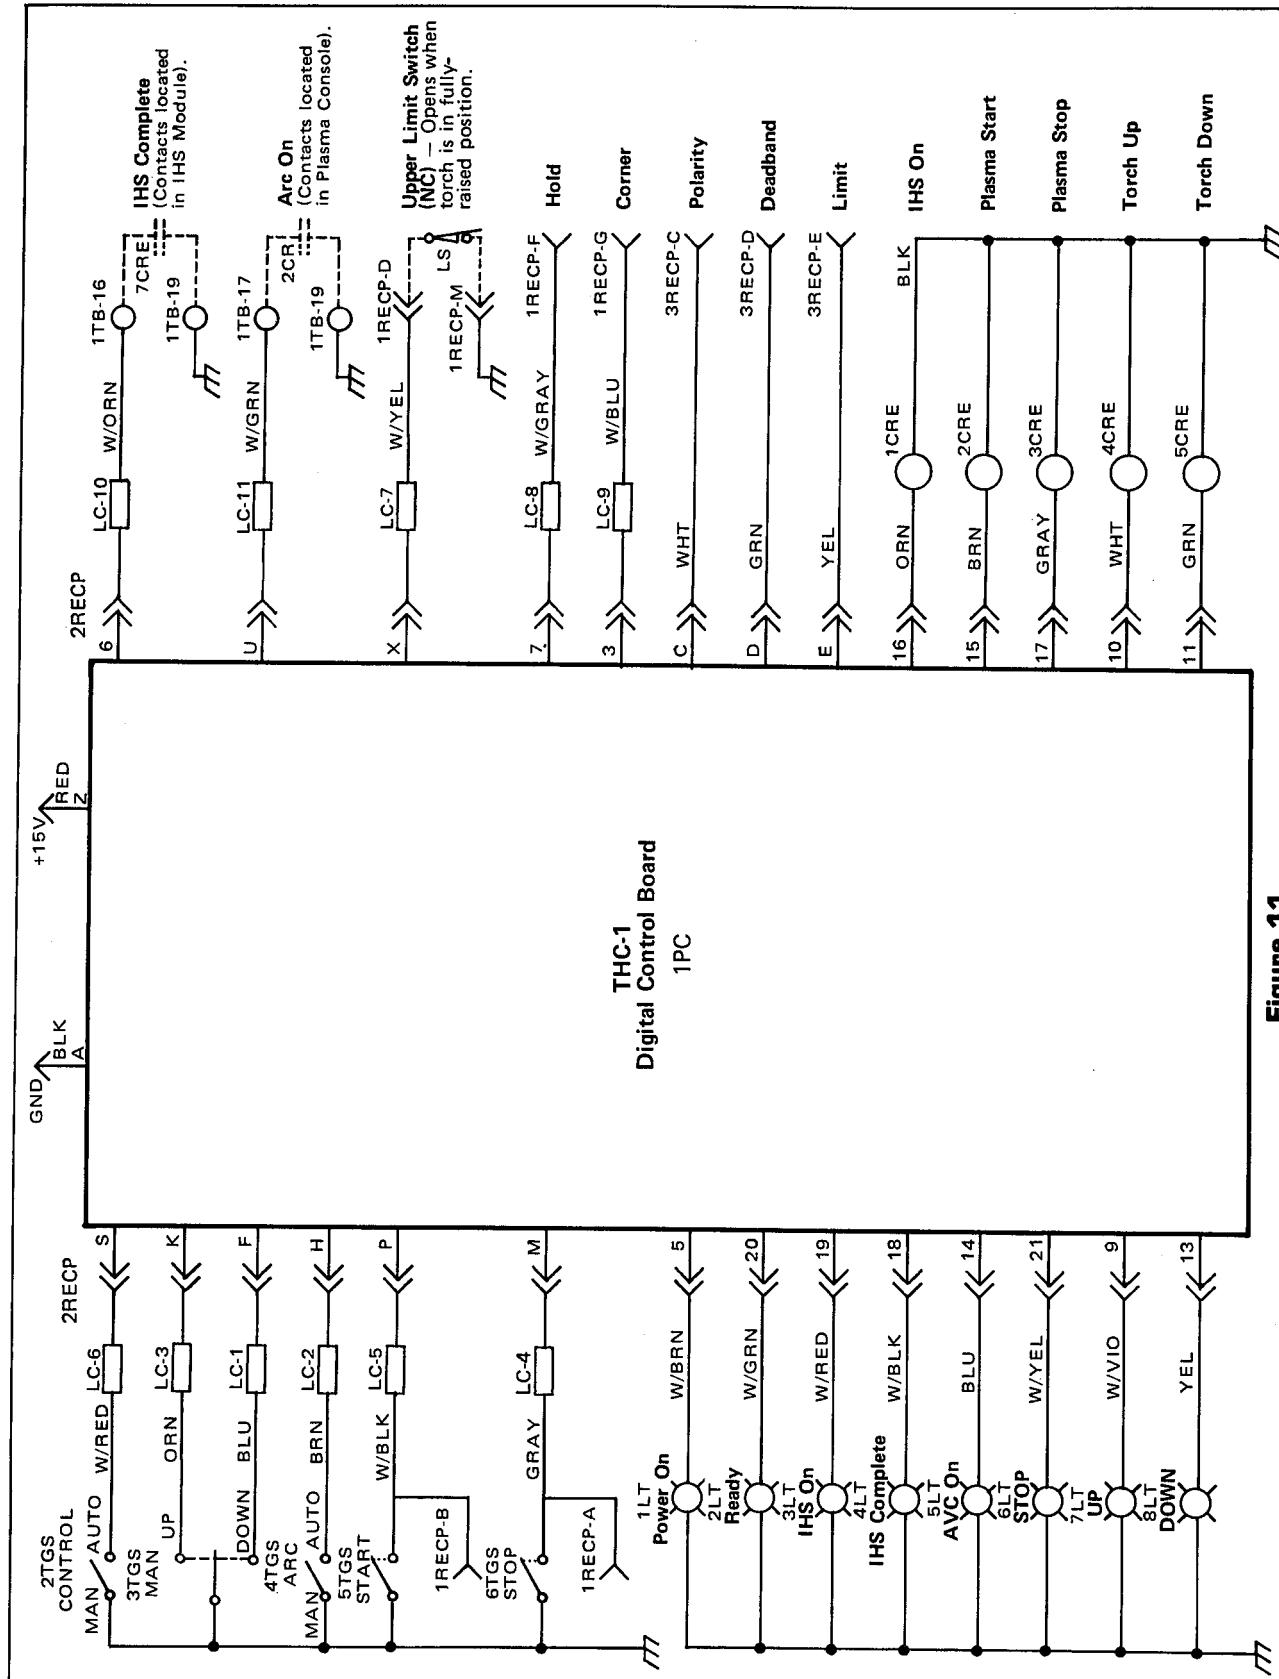

Figure 11.
- FIGURE 11 DIGITAL CONTROL BOARD - INPUT/OUTPUT